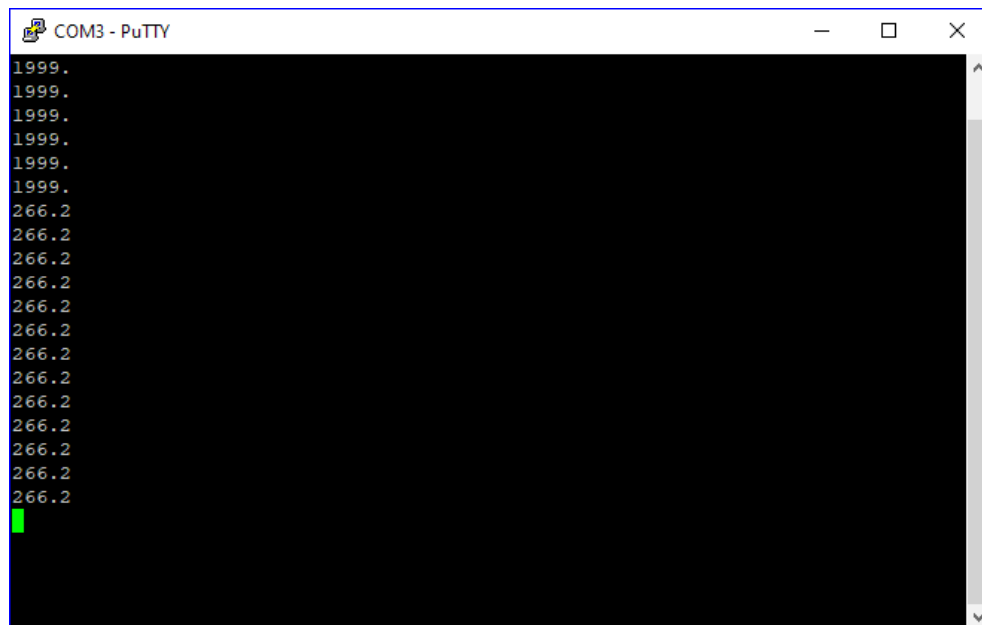

Figure 11 - Streaming pressure data in PuTTY
6. The black PuTTY terminal window will appear and pressure data will begin streaming at about 1 reading per second. Pressure data is presented as raw values without units. In the example (Figure 11), the pressure units were changed, from mTorr to Pa, midway through the run.